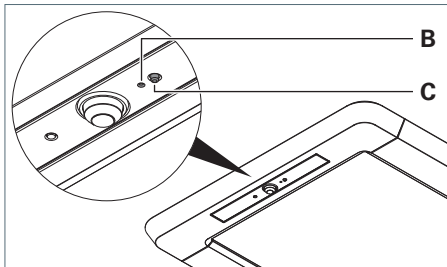
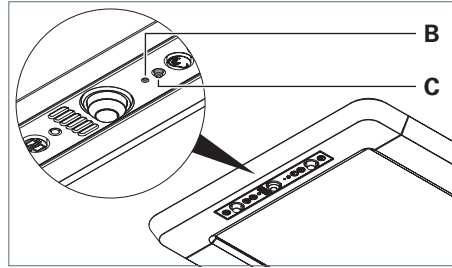

Fig. 20: Assigning the control element, version R.
Fig. 21: Assigning the control element, version RX.
- ▶ Press the key in the opening **B** with the end of opened paper clip, see Fig. 20 and see Fig. 21.
- ▶ Press the key **C**, see Fig. 20 and see Fig. 21.
- ▶ Press the key **C** and keep this key pressed, see Fig. 20 and see Fig. 21.